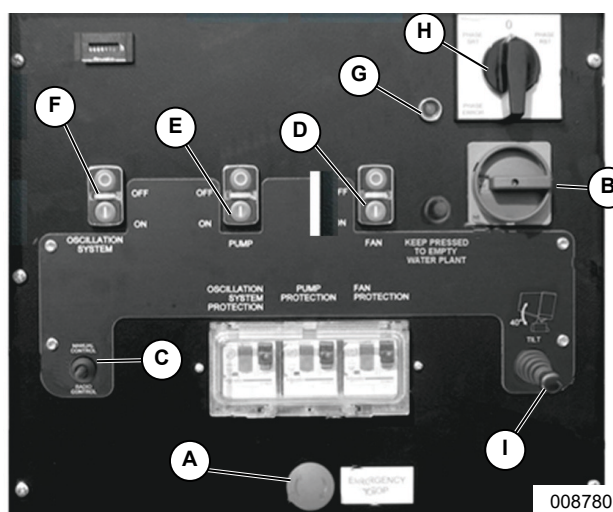

Figure 3-7. Control Panel
1. See **Figure 3-7**. Verify emergency switch (A) is in the OFF/armed position. If emergency switch is not armed, twist counterclockwise to reset.
2. Turn input switch (B) ON.
3. Set manual control switch (C) to MANUAL.
4. Press fan (D) ON.
5. Press water pump (E) ON.
6. If using automatic oscillation system, press oscillation system (F) ON.
NOTE: See **Figure 3-7**. Stop the unit at any time by pressing emergency stop (A).